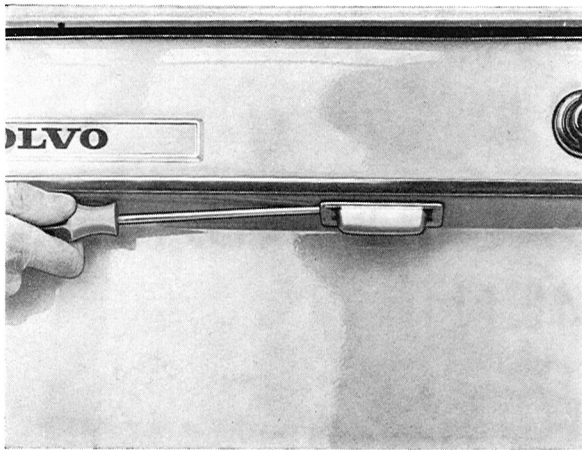

Fig. 3-113. Removing license plate light
1. Remove the license plate light with a Phillips screwdriver according to Fig. 3-113.